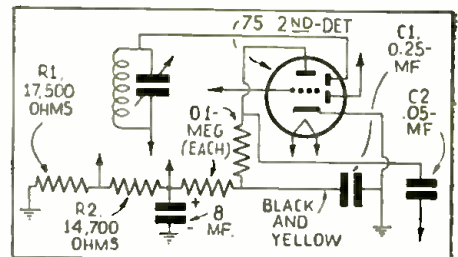

Fig. 2. No reception or distortion in Grunow 7-A sets may be caused by an open 14,700-ohm resistor or leaky 0.25-mf. bypass condenser.
**Grunow 7-A.** Absence of screen-grid voltage in this chassis ordinarily is due to failure of the 14,700-ohm section of the Candohm resistor. See R2, Fig. 2.
Choked and distorted reception is caused by a leaky 0.25-mf. condenser in the 2nd-detector plate resistance network. See C1, Fig. 2. This is one of 6 condensers in a block and is identified by a black and yellow lead.